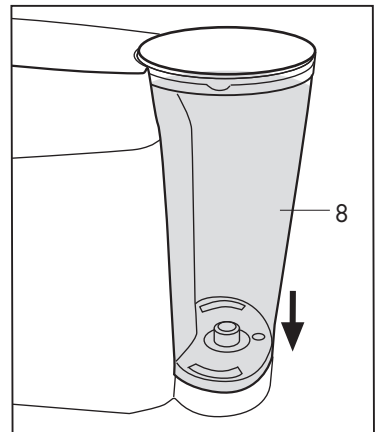

Fig. 3
- Close the cover and insert the tank (8) against the machine body so that the tab engages and the base of the tank rests correctly on the water valve. **(Fig.3)**